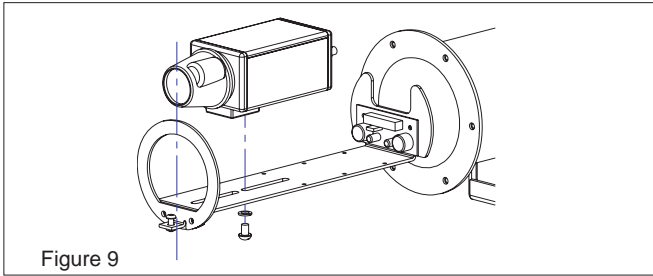

Figure 9
12. Attach your camera to the camera sled with the provided 1/4-20 screw (Figure 9). Adjust the camera so that the front of the lens is even with the front tab of the camera sled.